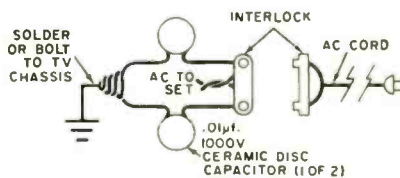

Fig. 2. Radiation into power line can be cured by bypassing to ground (the chassis) both sides of the a.c. line with capacitors.
**Wiring and Power Line Problems.** The next step is to prevent unwanted sync-bugs from reaching your receiver via the a.c. cord of the TV set and the house wiring. To block this exit from the set, two .01  $\mu$ f., 1000-volt ceramic capacitors are placed across the a.c. line to ground at the point where the line leaves the TV chassis. With most TV sets, the power connection is made through a simple interlock mounted at the rear. It may be possible to solder the capacitor leads to the back of the plug pins (see Fig. 2), or a bit of insulation can be removed from the power wires and the leads soldered to them. Tape the wires securely. Solder or bolt the other two capacitor leads to the chassis.